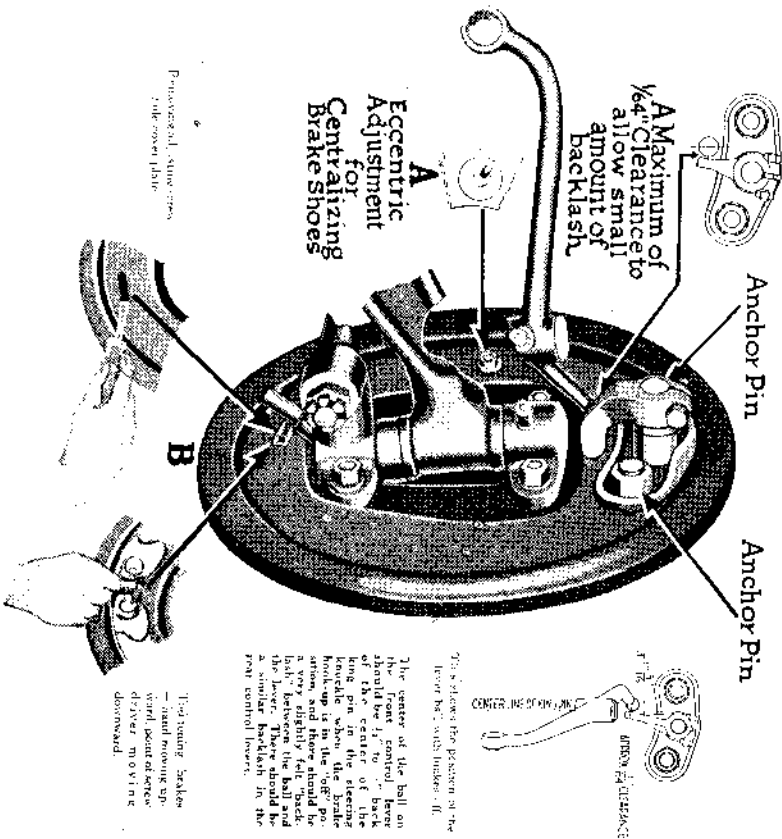

Fig. 9—Lever Control Assembly (Two Shoe Type)
ing eccentric with wrench, tighten locknut slightly to hold eccentric in this temporary position. Make this adjustment at each of the four wheels. (Fig. 9 and 11.)
toward the rim of the backing plate, until the two shoes are expanded against the brake drum sufficiently to cause enough brake drag so that the wheel can just be pulled over with one hand. Make this adjustment on each of the four wheels, and make sure that the adjustment is alike on all four wheels. (Fig. 9 and 11.)
C. Adjust the clearance of the shoes by turning back the adjusting screw wheel (in the reverse direction from which you turned it in "B") until only a slight brake drag remains in the turning of the wheel by one hand. Make this adjustment at each of the four wheels. (Fig. 9 and 11.)
D. Centralize the brake shoes in the drum by loosening the locknut on the eccentric adjustment, and turn eccentric slowly back in opposite direction to which the wheel revolves when the car is moving forward, until the wheel is in the freest position as regards brake drag. Holding eccentric firmly in this position, tighten locknut. Make this adjustment at each of the four wheels. (Fig. 9 and 11.)
suitable means to hold the pedal in this fixed depressed position. Try the brake holding effect by pulling wheels over by hand. The two front wheels should be alike. If not, then turn (loosen—not tighten) the notched adjusting screw wheel on the tighter wheel until the brake drag is the same on both wheels. Balance the two rear wheels with each other in the same manner. Then replace the adjusting screw hole cover plate, remove pedal jack, and let car down off car jacks. (Fig. 9 and 11.)
- (1) With car jacked up at all four wheels check to insure free operation of hook-up and free return of cross shaft and pedal to their respective stops, and to be sure that there is a slight backlash in both front and rear control levers. (Fig. 9 and 11.)
- (2) Follow instructions as given in "A" on page 24.
- (3) Loosen the two anchor nuts on each wheel completely free of the lockwashers.
- (4) Follow instructions as given in "B" on page 24.
- (5) Tighten anchor nuts as tight as possible with a 16" wrench.
- (6) Follow instruction as given in "C, D, and E" on page 25.